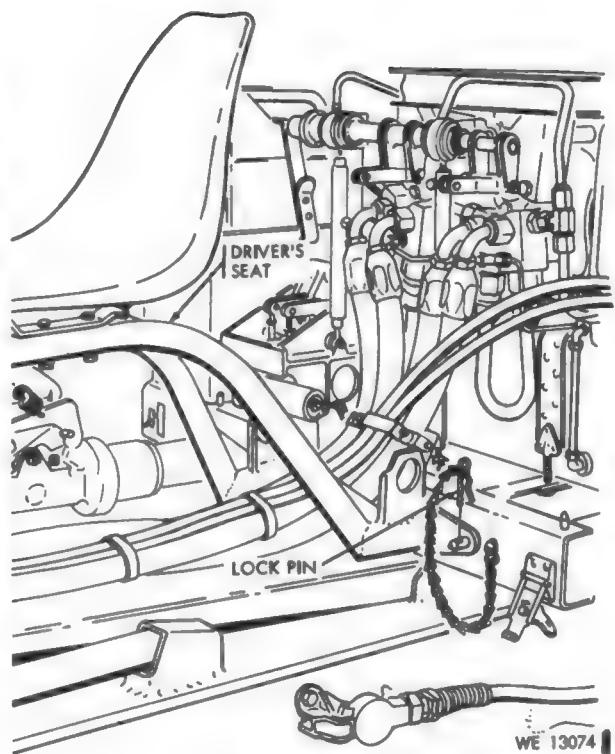

Figure 53. Removal or installation of driver's seat.
- (7) Remove the lockpin securing the driver's seat to the power unit frame, and remove the seat and stow in the prime mover (fig. 53).